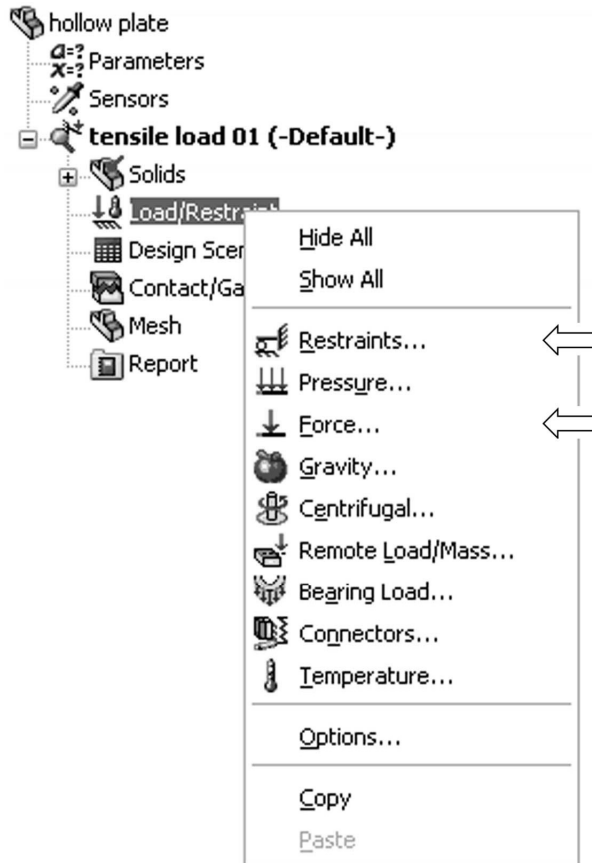
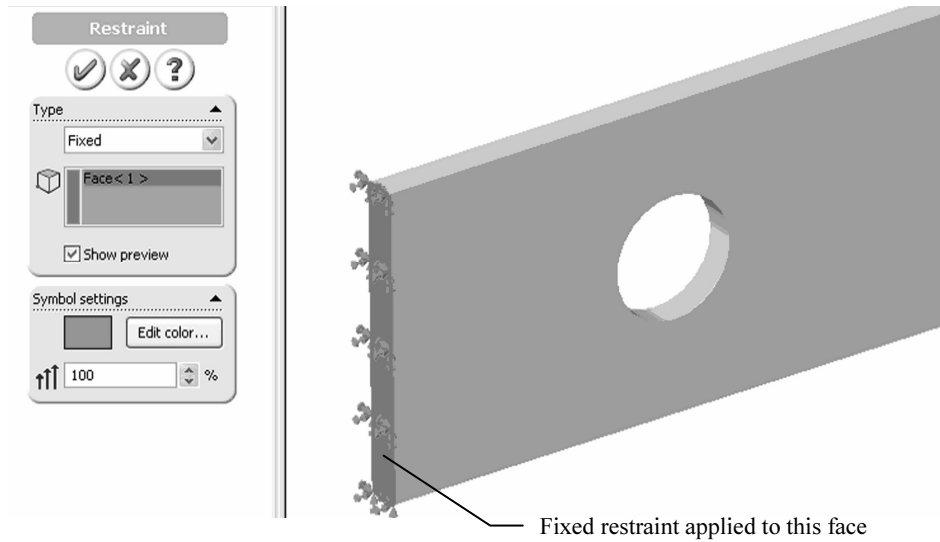
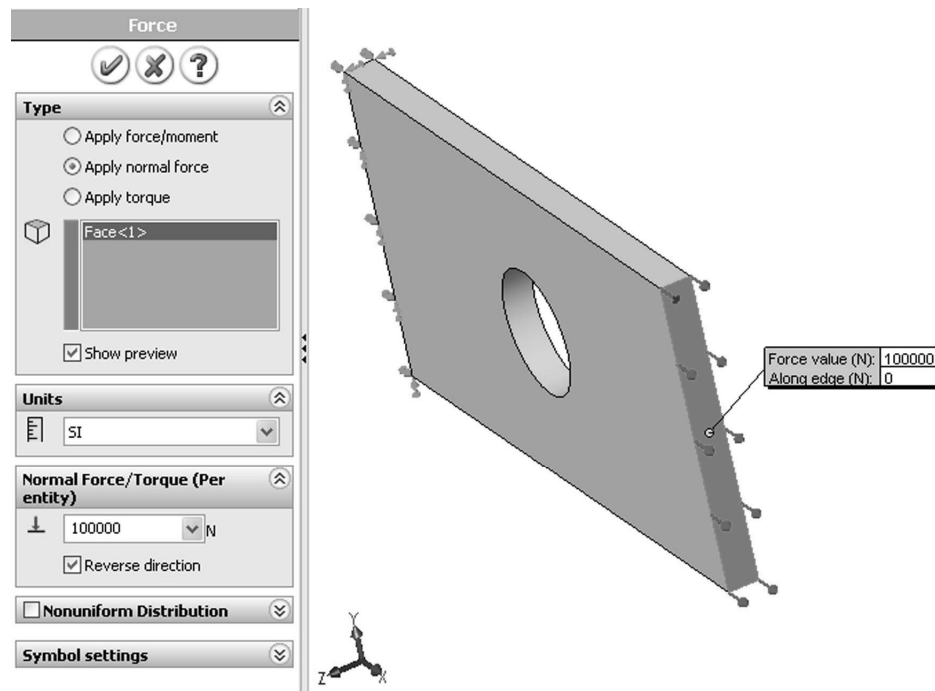

Figure 2-9: Pop-up menu for the *Load/Restraint* folder
Figure 2-10: Restraint window
Figure 2-11: Force window
Having defined the material, we now move to defining the loads and restraints. To display the pop-up menu that lists the options available for defining loads and restraints, right-click the *Load/Restraint* folder in the *tensile load 01* study (Figure 2-9).
To define the restraints, select **Restrains...** from the pop-up menu displayed in Figure 2-9. This action opens the **Restraint** window shown in Figure 2-10.
- ❑ Using the **Hide All** or **Show All** commands in the pop-up menu shown in Figure 2-9, or
Now define the load by selecting **Force** from the pop-up menu shown in Figure 2-9. This action opens the **Force** window (Figure 2-11).
In the Type area, select the **Apply normal force** button in order to load the model with 100,000 N tensile force uniformly distributed over the end face, as shown in Figure 2-11. Check **Reverse direction** option to apply a tensile load.